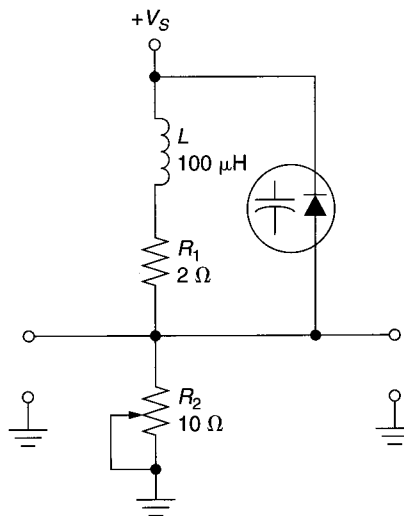

FIGURE 5.26
4. The varactor in Figure 5.26 has the following values:  $C_t = 68$  pF at  $V_R = 4$  Vdc, and  $C_R = 1.12$  for  $V_R = 4$  to 10 Vdc. Determine the resonant frequency for the circuit at  $V_R = 4$  Vdc and  $V_R = 10$  Vdc.